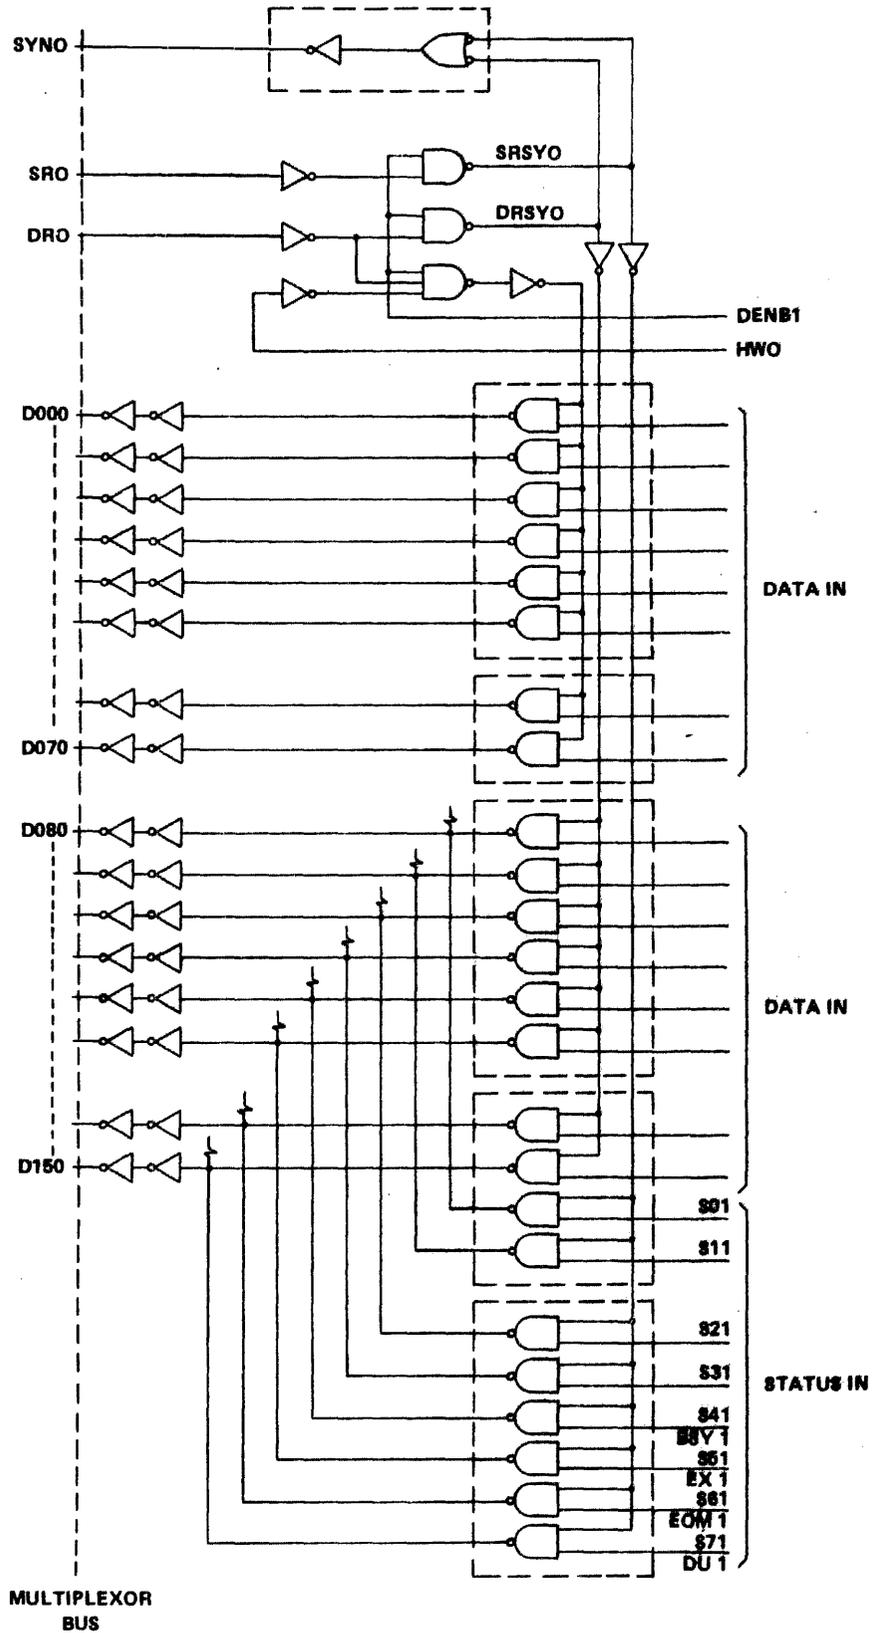

Figure 4. Data and Status Input Logic Diagram
**3.3.1 Data.** Figure 4 shows how a byte or halfword of data may be read into the Processor. When an 8-bit byte oriented device controller is addressed, DENB1 is high, enabling the Data Request (DR) control line from the Processor. The DR enables the data byte onto the eight bottom Data Lines (D080 through D150). If a 16-bit halfword oriented device controller is addressed, one data byte is enabled as described above, and a second data byte is enabled onto the eight top Data Lines (D000 through D070) by an active Halfword (HW) signal.